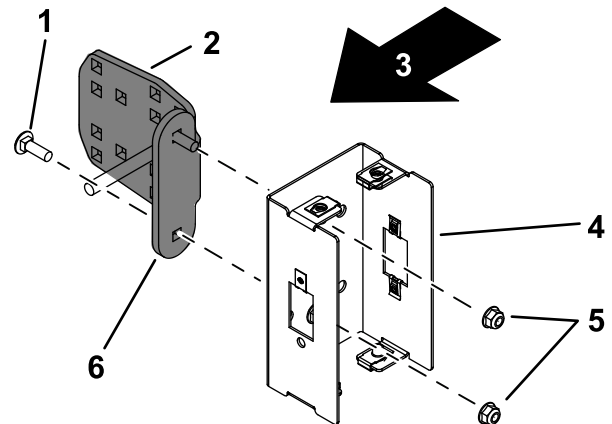

Figure 8
3. Determine which holes to use for installing the mounting bracket to the light bracket and the position on the rollbar. Refer to the table below and Figure 8 through Figure 18.
4. Install the mounting bracket to the light bracket as shown in Figure 8.
Note: Ensure the mounting-bracket tab points in the correct position (Figure 8).